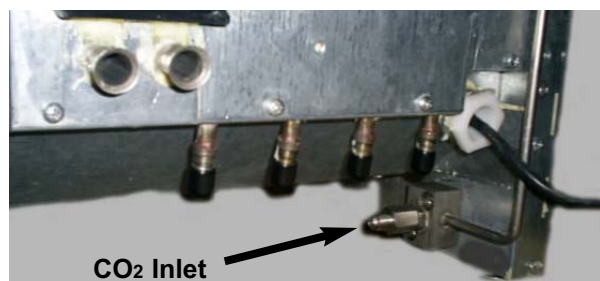

Figure 3
- F. Place CO2 Cylinder with regulator in a serviceable location and route CO2 supply line (75 PSI) to the 1/4 inch flare fitting at the front of the unit (See Figure 3). Check for leaks.